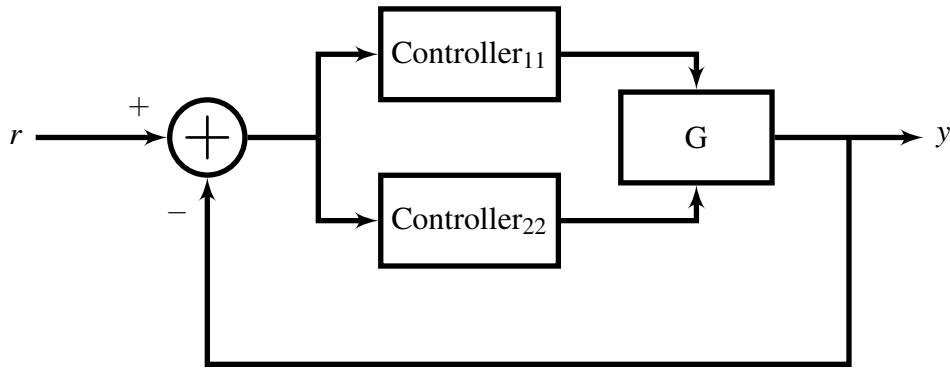

Figure 2: Simulation model for disturbance rejection.
In Figure 2, G is the transfer function matrix in Equation 1, y consists of both system outputs and r includes a reference trajectory for each temperature sensor.
- Figure 2: Transistor 2 reference and temperature reading ($^{\circ}\text{C}$) vs time.